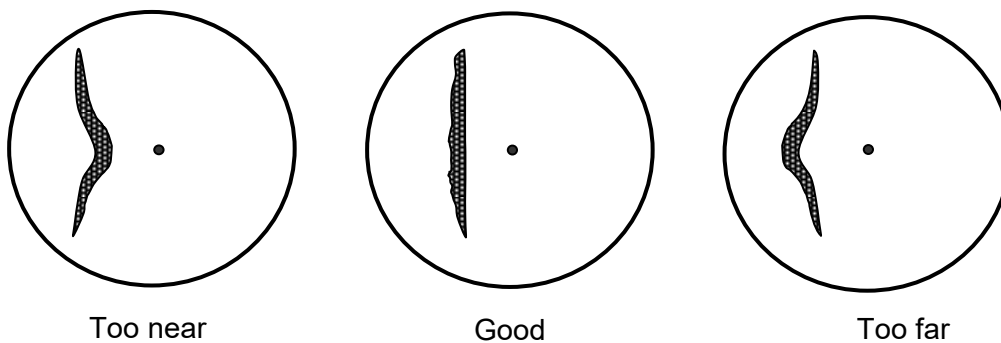

Figure 4.1 Picture display of Trigger Adjustment
- (3) Move the trackball up or down to adjust the value to get a straight picture of the straight object in the display as shown in Figure 4.1.
- (4) Press **[ENT]** key to save the adjustment result.